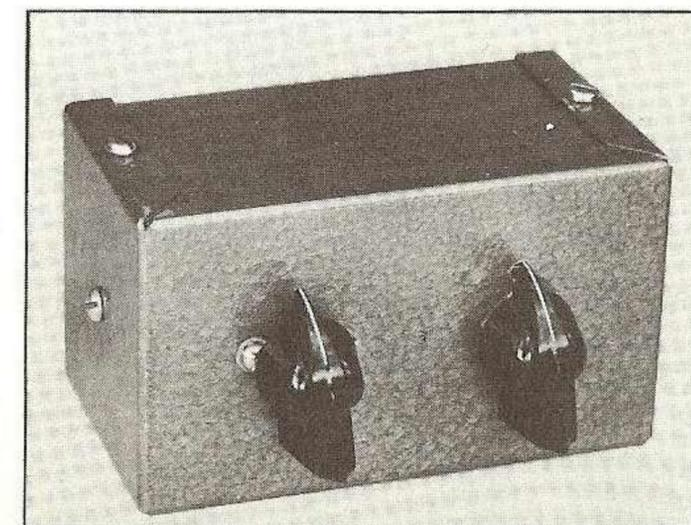
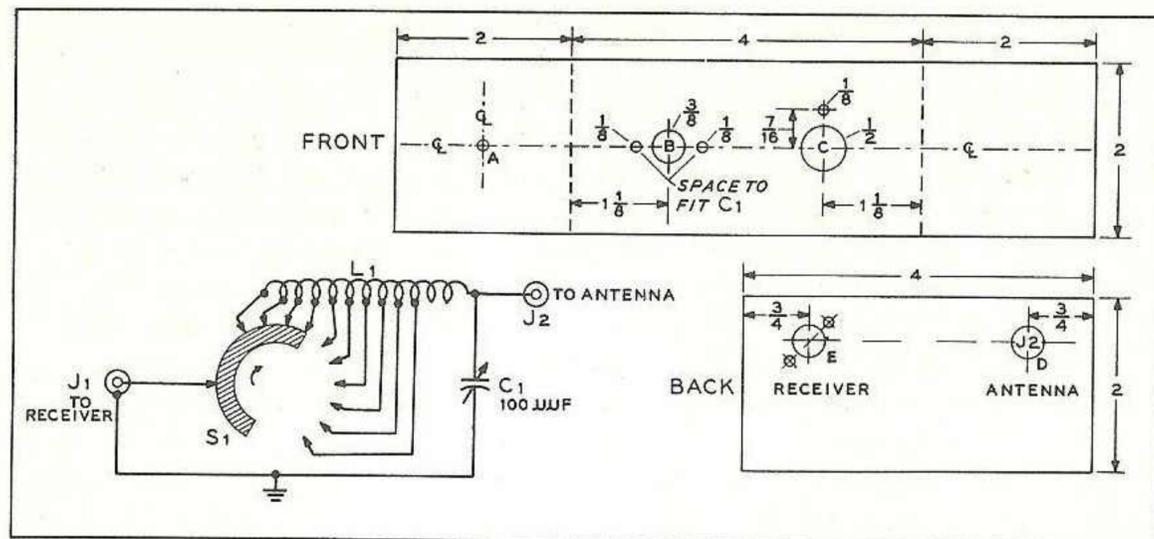

Fig. 20 Simple antenna coupler will match the antenna to your receiver. Control at left is C1, with switch S1 at right.
Fig. 21 Schematic diagram and chassis layout of simple antenna coupler.
The schematic of the coupler is shown in Figure 21, and comprises a simple L-type network. The complete coupler is built within an aluminum box (*Bud CU-2103*), as shown in Figures 20 and 22. The following wiring and assembly instructions are presented in a step-by-step sequence enabling the constructor to complete the project correctly in a minimum of time. Be sure to read each step all the way through before you start to do it. Solder all connections as you go along.
- ( ) Mark the chassis holes (Figure 21) on the paper wrapper of the box. Drill all holes and remove the burrs.